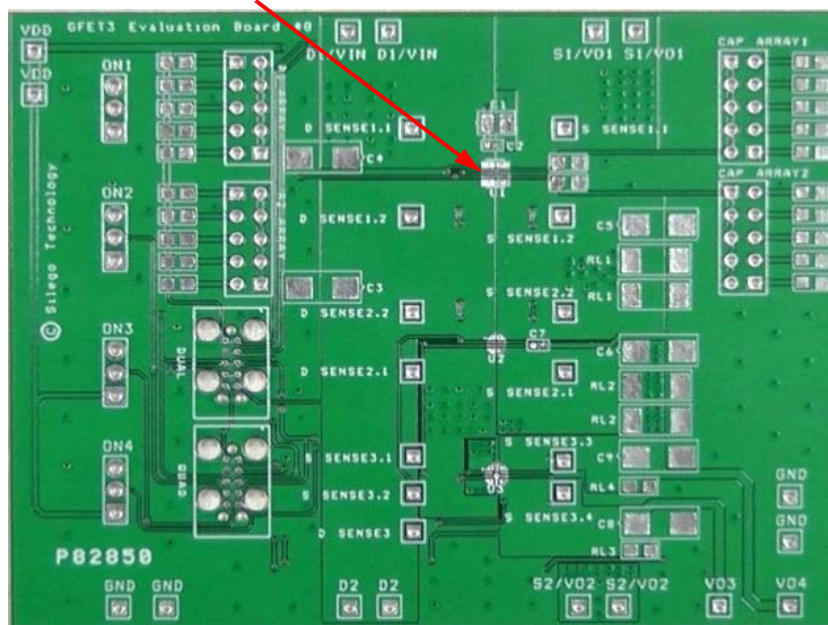

Figure 1. SLG59M1527V Evaluation Board
2. Since the D1, D2, S1 and S2 pins dissipate most of the heat generated during high-load current operation, it is highly recommended to make power traces as short, direct, and wide as possible. A good practice is to make power traces with an absolute minimum widths of 15 mils (0.381 mm) per Ampere. A representative layout, shown in Figure 1, illustrates proper techniques for heat to transfer as efficiently as possible out of the device;
A GFET3 Evaluation Board for SLG59M1527V is designed according to the statements above and is illustrated on Figure 1. Please note that evaluation board has D_Sense and S_Sense pads. They cannot carry high currents and dedicated only for RDS_{ON} evaluation.